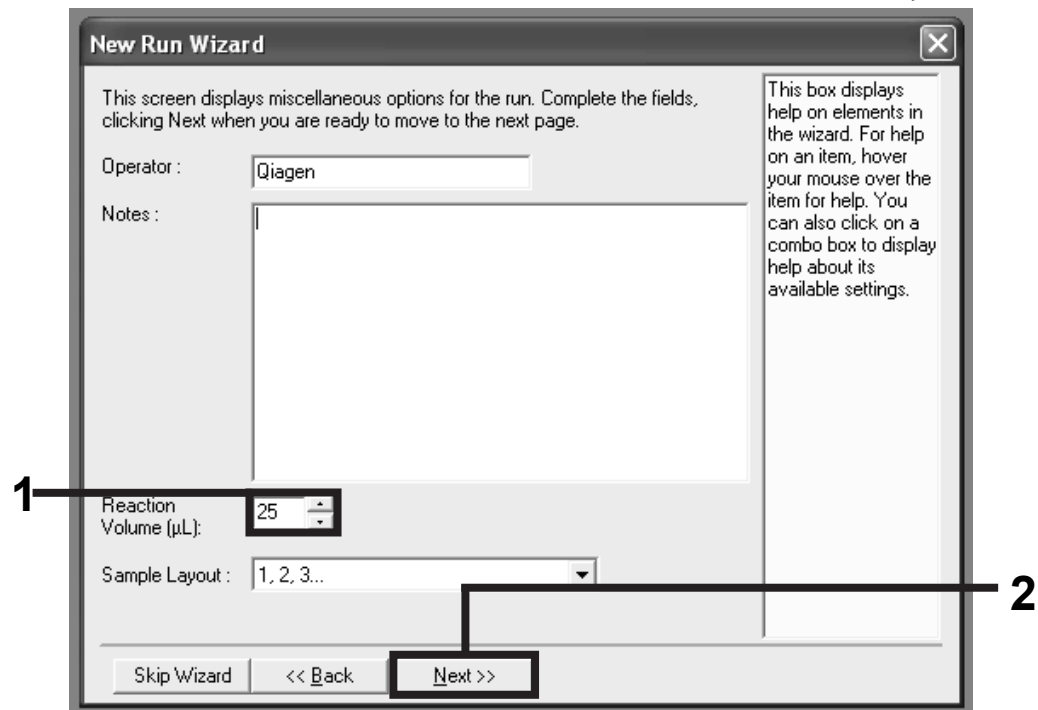

Figure 2. Setting the general assay parameters.
7. Select 25 for the reaction volume and click “Next” (Figure 2).